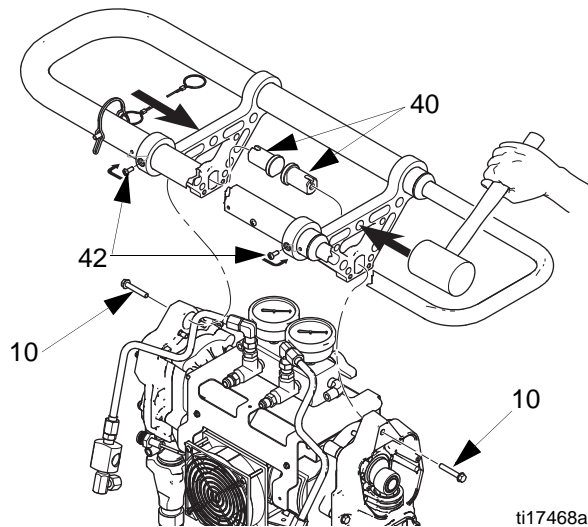

FIG. 60: Cart Handle Removal
5. Push drive housing (215) onto motor (201). Install screws (220).
- a. Engage handle through back of drive housing. Install screws in driver housing. Repeat for other drive housing if entire cart handle assembly was removed. See FIG. 60.
- b. Gently tap the handle (39) and align holes of handle (37) and tube (38).
- c. Apply medium strength anaerobic thread sealant on screw threads (42) and install in handle (37).